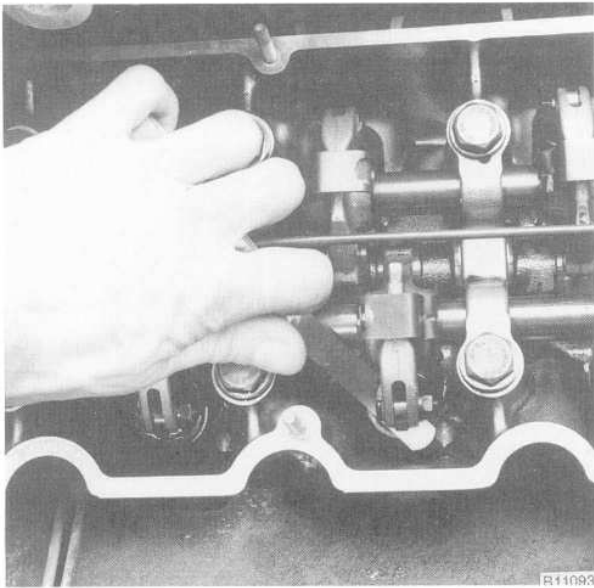

Fig. 15. Valve clearance being measured. Feeler gauge is inserted between rocker arm eccentric and valve tip.
3. Measure the valve clearances of the no. 1 cylinder intake and exhaust valves using a feeler gauge. See Fig. 15. Compare the measured clearance values with the specifications listed in **Table b**.